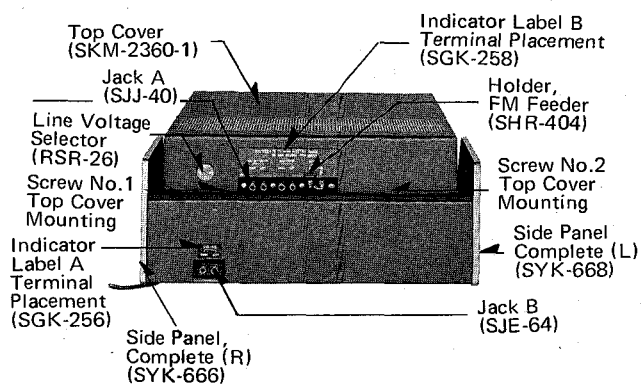

Fig. 2 REAR VIEW
2. Remove two (2) top cover mounting screws (rear side), Nos. 1-2, as shown in Fig. 2 on page 1.